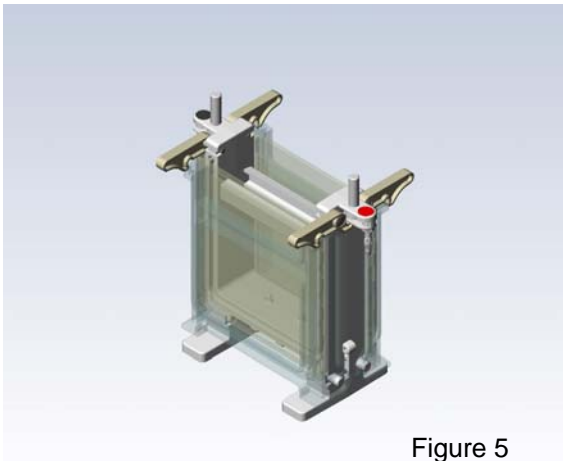

Figure 5
6. Close doors and relatch by pressing down on the white latches so that the assembly looks like that shown in figure 5.